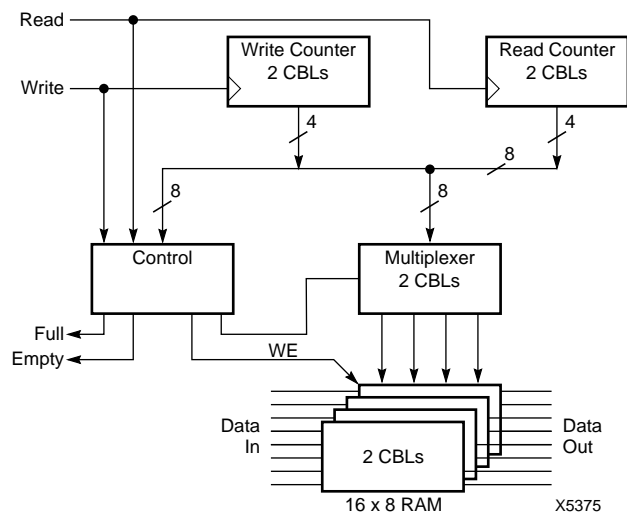

**Figure 3. CLB Function Generators Can Be Used as Read/Write Memory Cells**
An optional mode for each CLB makes the memory look-up tables in the F' and G' function generators usable as either a 16 x 2 or 32 x 1 bit array of Read/Write memory cells (Figure 3). The F1-F4 and G1-G4 inputs to the function generators act as address lines, selecting a particular memory cell in each look-up table. The functionality of the CLB control signals change in this configuration; the H1, DIN, and S/R lines become the two data inputs and the Write Enable (WE) input for the 16 x 2 memory. When the 32 x 1 configuration is selected, D1 acts as the fifth address bit and D0 is the data input. The contents of the memory cell(s) being addressed are available at the F' and G' function-generator outputs, and can exit the CLB through its X and Y outputs, or can be pipelined using the CLB flip-flop(s).